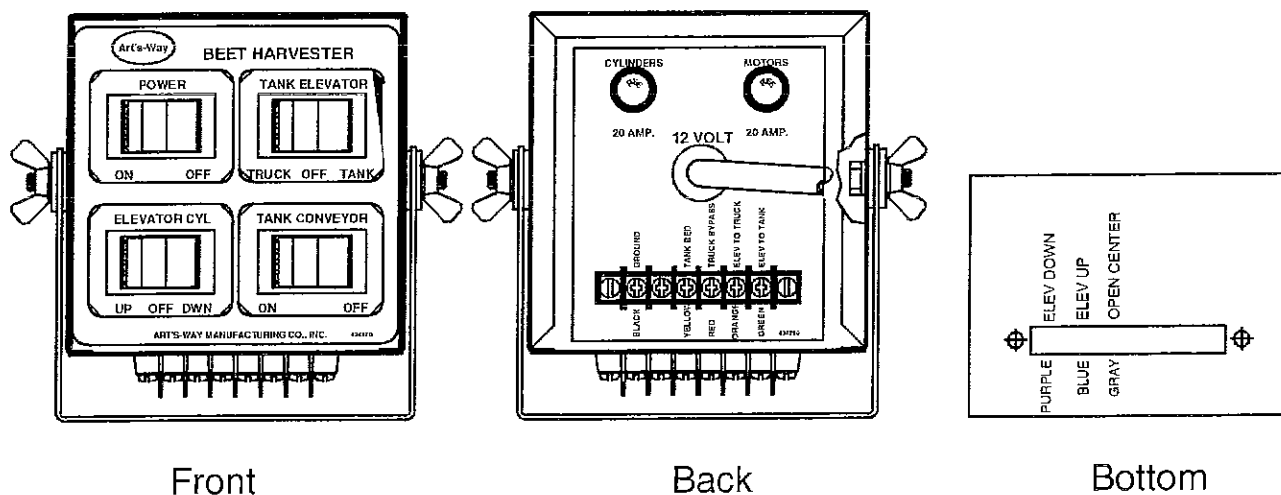

Figure 9. Control Box Wiring
2. Route the main wiring harness through the cab and connect the wires to the control box according to the color of the wires and the color code on the box. See Figure 9.